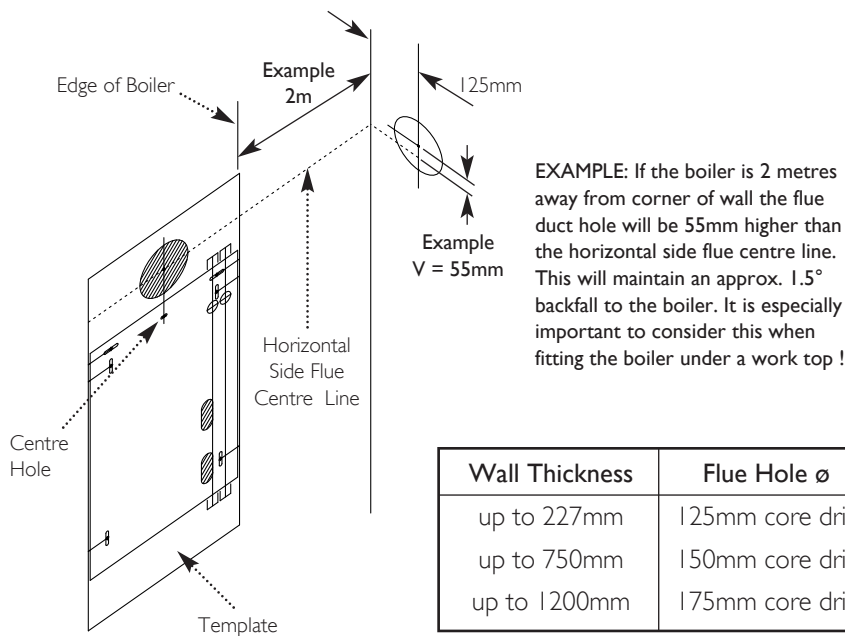
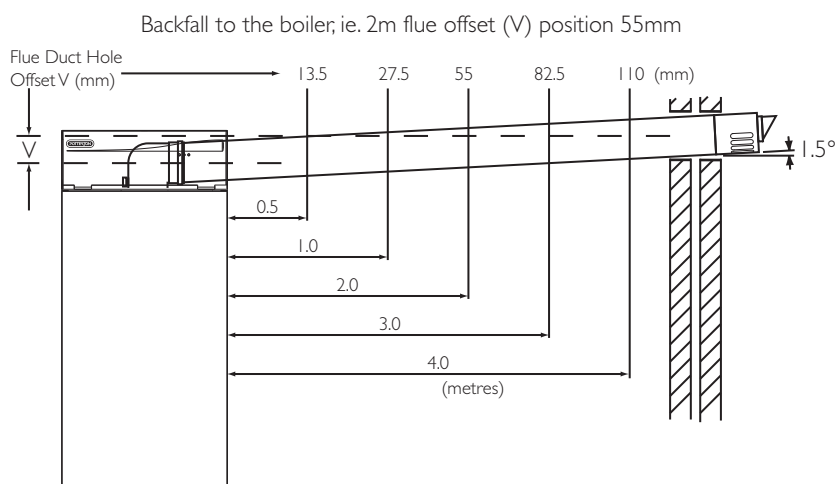

Fig. 20
Fig. 21
**For side exit:** project the horizontal side flue centre line into the corner of the room and along the wall to where the flue hole will be drilled. (Fig. 20). The diagram (Fig. 21) shows the dimensions required to ensure any horizontal flue is installed with the correct fall to the boiler. Mark the offset (V) dimension and if required, mark the position of the gas, water and condensate pipes. Remove the template.
4. Cut the hole for the flue (minimum diameter 125mm, see table (Fig. 20) for wall thicknesses and flue hole diameters).